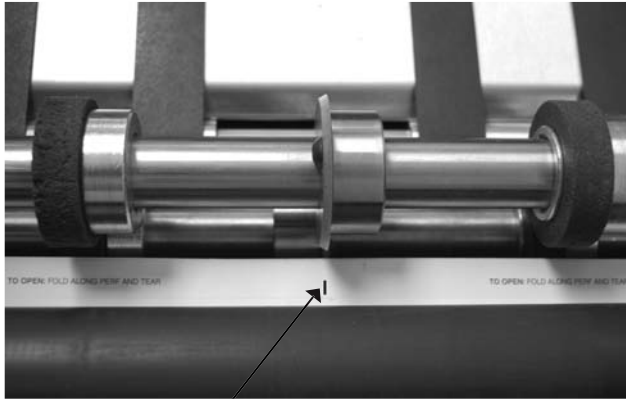

Fig. 22a Slitting alignment mark
3. Using the hand wheel, manually feed the marked form through the folder into the output wheels of the folder just before the slitting blades (Fig. 22a).